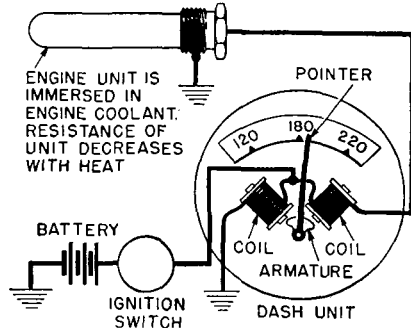

FIG. 13-25. Circuit diagram of electric-resistance temperature-indicator system.
2. *Electric indicators.* Electrically operated temperature indicators are of two types, the balancing-coil type and the bimetal-thermostat type. The balancing-coil type oil-pressure indicator (§222), fuel gauge (§38), and temperature indicator all operate in a similar manner. The dash indicating units are, in fact, practically identical, consisting of two coils and an armature to which a needle is attached (Fig. 13-25). The engine unit changes resistance with temperature in such a way that at higher temperatures it has less resistance and will thus pass more current.